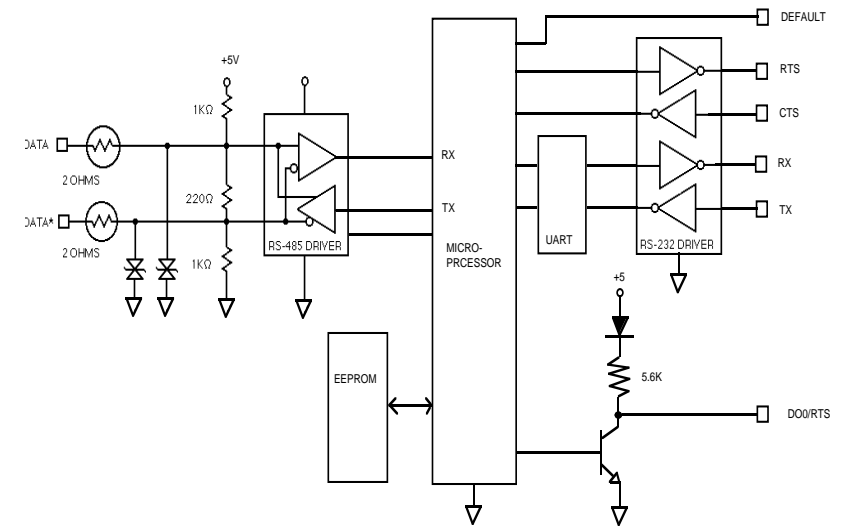

Figure 2.1 A2400 Block Diagram.
A simplified block diagram of the A2400 is illustrated in Figure 2.1. This shows the RS-485 and RS-232 drivers connected to their respective interface pins. The A2400 contains two UARTs (Universal Asynchronous Receiver / Transmitters), one dedicated to each port. The RS-485 port is connected to a UART that is integral to the supervisory microprocessor. The RS-232 port connects to a second UART external to the microprocessor. All data communicated to and from the A2400 on either port must pass through the microprocessor. The micro controls the data flow depending on the content of the data and setup information specified by the user.
3) RTS RS-232 Request To Send output. This output is used to control the transmitter of the modem which allows multiple transmitters to exist on the same system. The RTS output is typically connected to the RTS input of the modem. The timing of the RTS signal is user-configurable with the T1, T2, T3 commands. The polarity of the RTS signal may be configured with the Setup (SU) command.
5) DO0/ARTS This is a digital output that can be configured to perform two functions. The function configuration is set by a bit in the Setup (SU) command. Normally this pin is configured as a general-purpose digital output. It may be turned on and off by commands from the host computer. The exact circuit schematic of the output is shown in Fig. 2.1. This circuit provides an output that is TTL and CMOS compatible. The diode in the circuit allows the collector to be pulled up to 30 volts to interface to relays and other higher-voltage devices. This output may also be configured as an Alternate Request To Send signal. With this setup, the ARTS signal exactly mimics the RTS output. This output may be used when a TTL signal is desired or a high-current open-collector signal is necessary.
7) (Y)DATA+ This is the positive polarity signal of the differential RS-485
The RS-485 port lines are terminated as shown in Fig. 2.1. The 220 ohm resistor is used as a transmission line terminator to improve signal fidelity. A similar 220 ohm resistor should be installed at the far end of the RS-485 bus. The 1 K ohm resistors are used to bias the signal lines to a Mark condition. This is necessary when all transmitters of the RS-485 bus are off, which is the most prevalent condition. The resistor bias helps to prevent noise pickup.
When using a bi-directional RS-485 system, there are unavoidable periods of time when all stations on the line are in receive mode. During this time, the communications lines are left floating and are very susceptible to noise. To prevent the generation of random characters, the lines are biased in a MARK condition as shown in Figure 2.1. The 1K resistors are used to keep the DATA+ line more positive than the DATA- line when none of the RS-485 transmitters are on. When enabled, the low impedance of an RS-485 driver easily overcomes the load presented by the resistors.